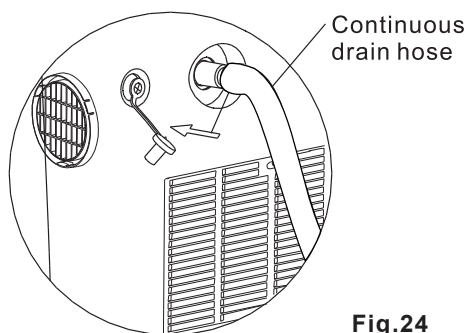

Fig.24
- Remove the rubber plug at the back of the unit and attach a hose to drain outlet. Place the open end of the hose directly over the drain area in your basement floor. (See Fig. 24 & 25.)